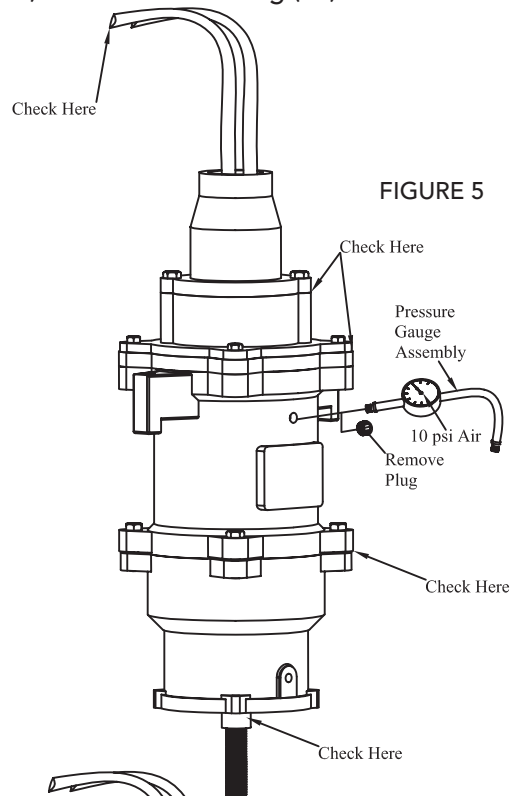

FIGURE 5
If oil has been drained, fill to normal level before performing pressure test (See Figure 5 and 6). Remove pipe plug (26) from motor housing (21).